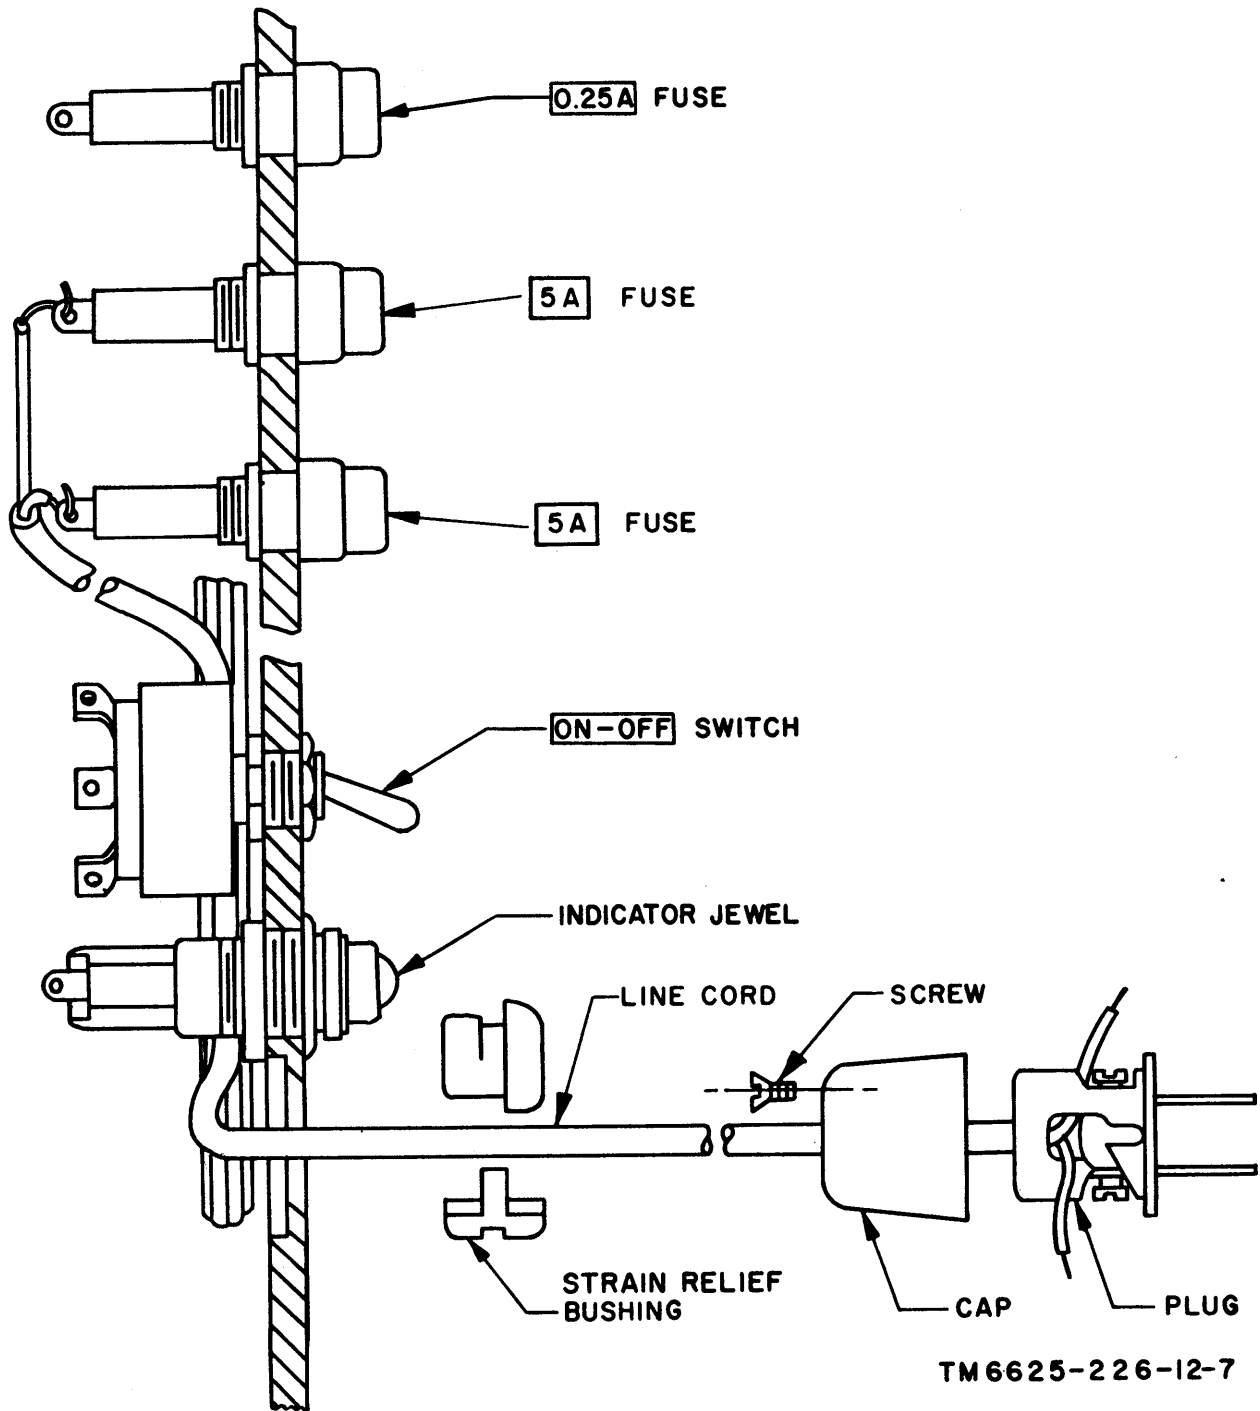

Figure 7. Partial cutaway view of tester front panel.
- (1) Turn the indicator jewel (fig. 7) counterclockwise and pull it out to expose the defective lamp.
- (2) Press in on the lamp and turn it counterclockwise to unlock it.
- (3) Pull the defective lamp out and replace it with a new one. Push the lamp in and twist it clockwise to lock.
- (4) Replace the indicator jewel on the lamp holder; turn clockwise to secure in place.
- (2) Twist the exposed wire strands at each end of the cable tightly together.
- (3) Feed the twisted ends of the cable through the internal slots in the sleeves.
- (4) Coil the twisted wire ends in a clockwise direction and press them into the threaded ends of the sleeves.
- (5) Place a washer on the threaded portion of each tip; screw a tip into the threaded hole in the end of each sleeve.
a. *Plug Replacement (fig. 7).*
- (1) Remove the screw from the rear of the cap; pull the cap off the plug.
- (2) Unscrew both screws at each prong in the plug to release the two leads.
- (3) Pull the cap and plug off the line cord.
- (4) Cut 3 inches off the line cord, skin the ends of the leads back 1/2 inch, and skin the outer covering back 1 inch.
- (5) Place the cap over the line cord with the open end facing the end of the leads.
- (6) Thread the leads through the hole in the plug; fasten the wire under the screws in each prong.
- (7) Replace the cap and secure the holding screw.
- (3) Unsolder the line cord from its point of connection to the 5A fuse holders (fig. 7).
- (4) Squeeze the strain relief bushing along the parting lines of the halves and pull it from the front face of the panel.
- (5) Thread the replacement line cord through the hole in the panel and dress it between the variac (not shown) and the ON-OFF switch.
- (6) Thread the line cord inside the two outer supporting posts (not shown) on the terminal board at the back of the VOLTAGE switch.
- (7) Skin the ends of the line cord and solder the leads to the rear contact on the 5A fuse holders.
- (8) Pull the excess line cord back through the panel hole.
- (9) Place the strain relief bushing parts around the line cord; squeeze with pliers while bushing the bushing into the panel hole.
- (10) Replace the plug on the line cord (4) through (7) above).